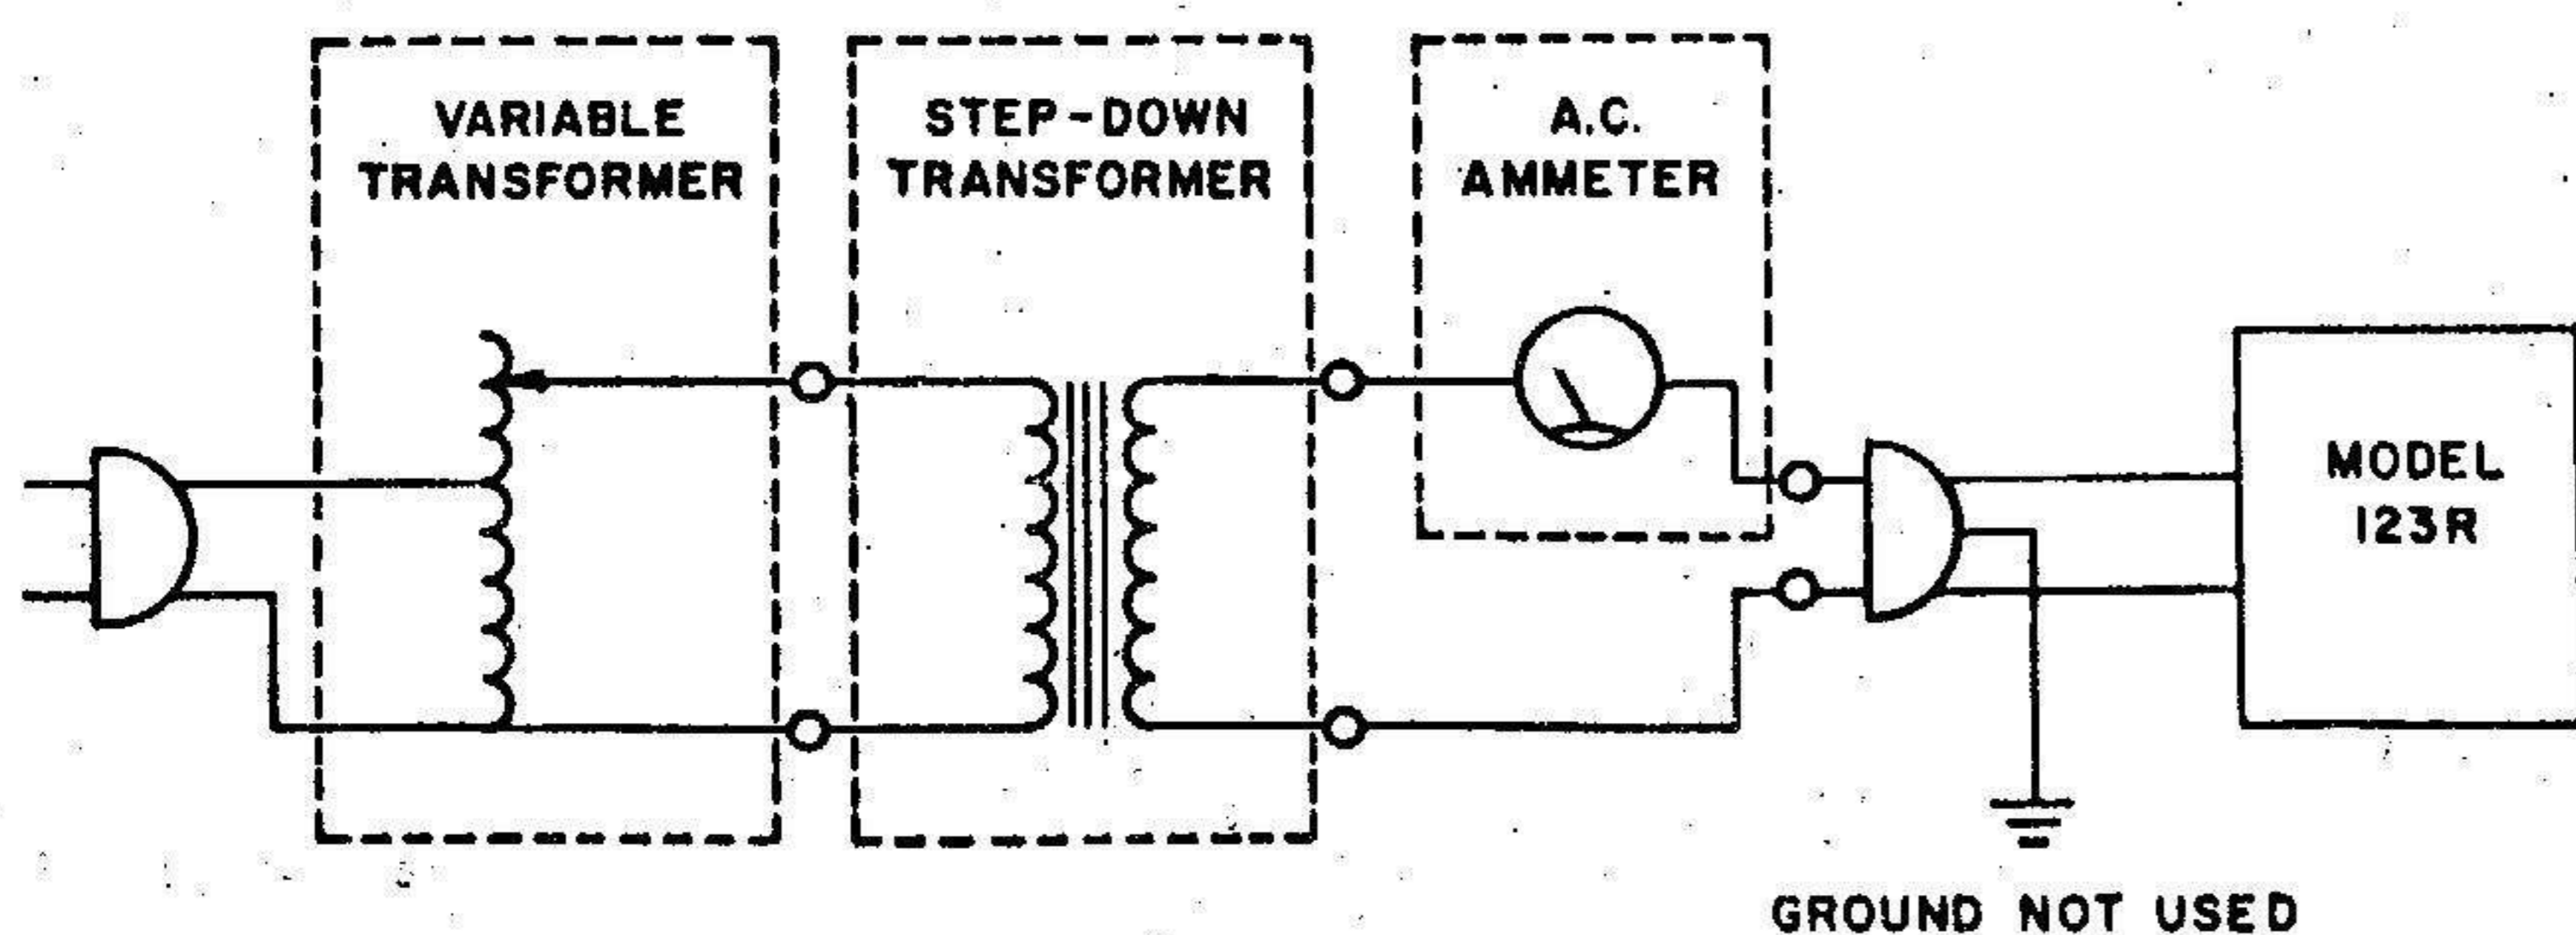

Figure 12. Schematic of Test Hook-up
- Connect the line cord in series with a 0-5 amp AC ammeter to a variable source of low voltage AC. See figure 12. This source can be a variable transformer in the primary of a step down transformer. A filament transformer is suitable for this purpose.